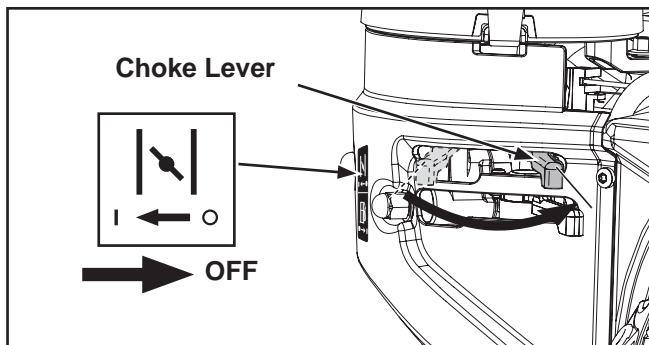

Figure 10. "Off" Position of Choke Lever.
NOTE: The choke position for starting may vary depending upon temperature and other factors. Once engine is running and warm turn choke to "OFF" position. See Figure 10.
4. Gradually return the choke control to the "OFF" position after the engine starts and warms up. See Figure 10.